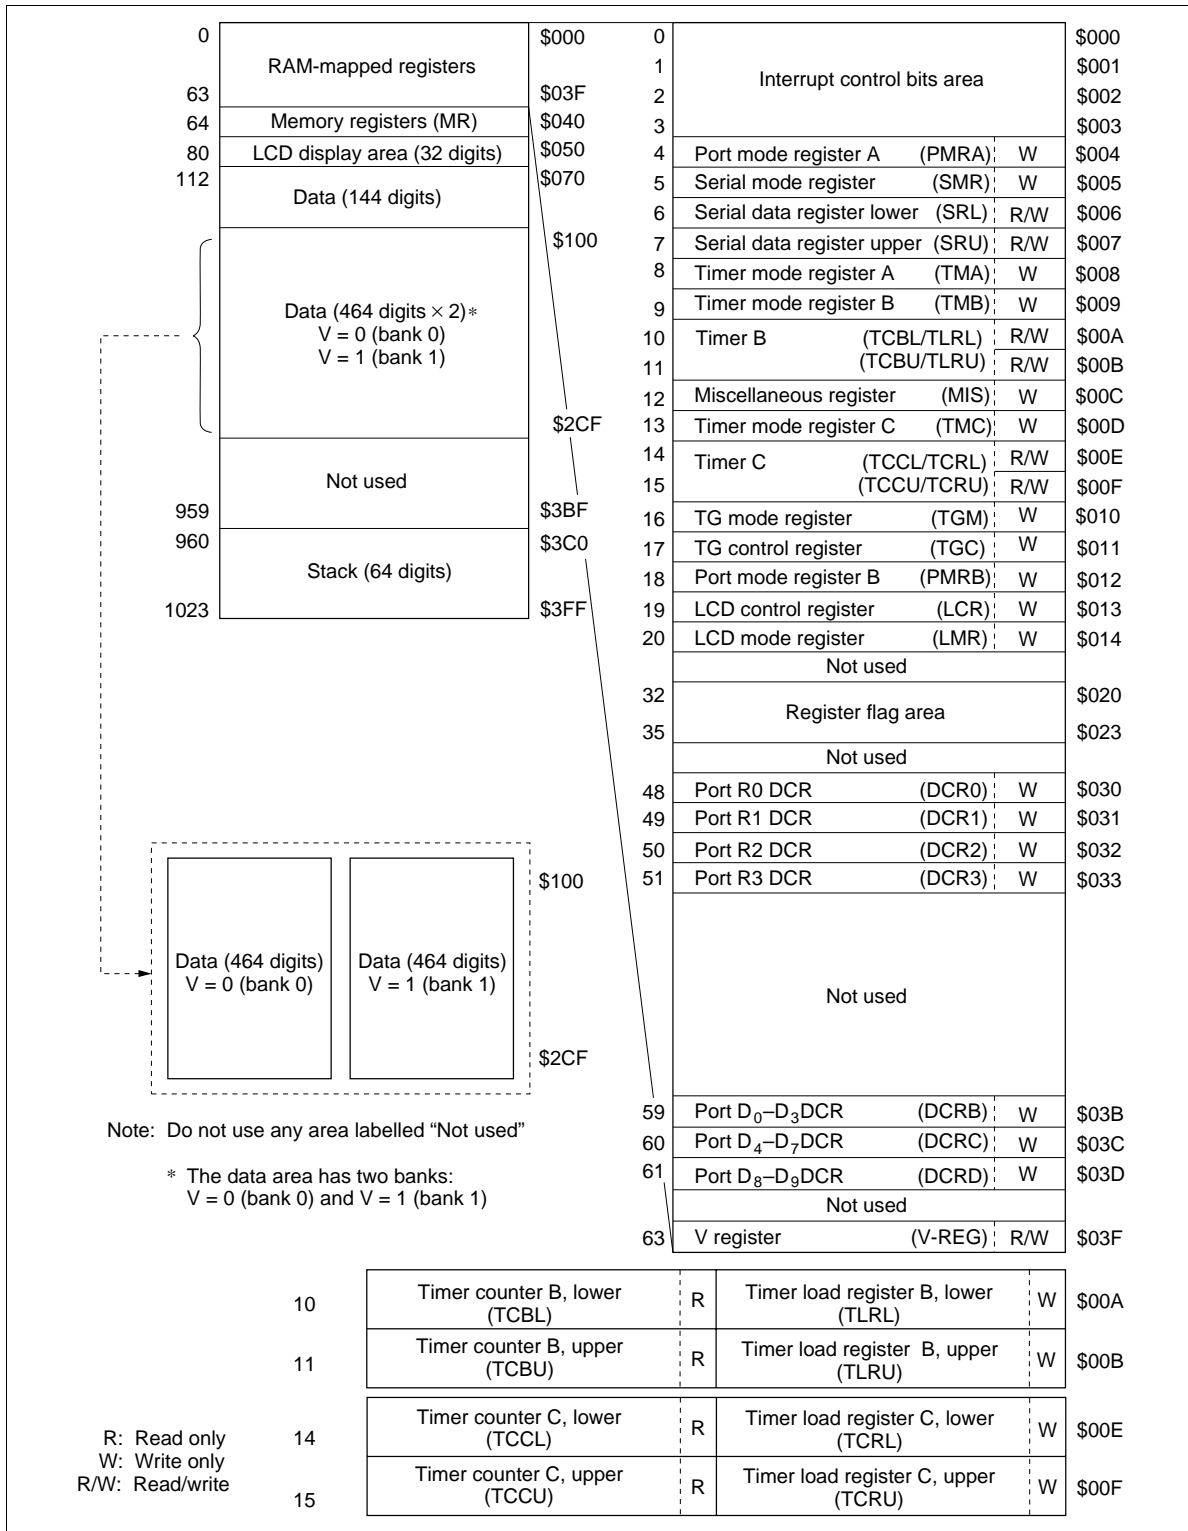

Figure 2 RAM Memory Map
The MCU contains a 1,184-digit  $\times$  4-bit RAM area consisting of a data area and a stack area. In addition, interrupt control bits and special registers are mapped onto the same RAM memory space outside this area. The RAM memory map is shown in figure 2, and described below.
**Special Function Registers Area (\$004–\$01F, \$024–\$03F):** Used as mode or data registers for serial interface, timer/counters, LCD, and DTMF, and as data control registers for I/O ports. These registers are classified into three types: write-only, read-only, and read/write as shown in figure 2.